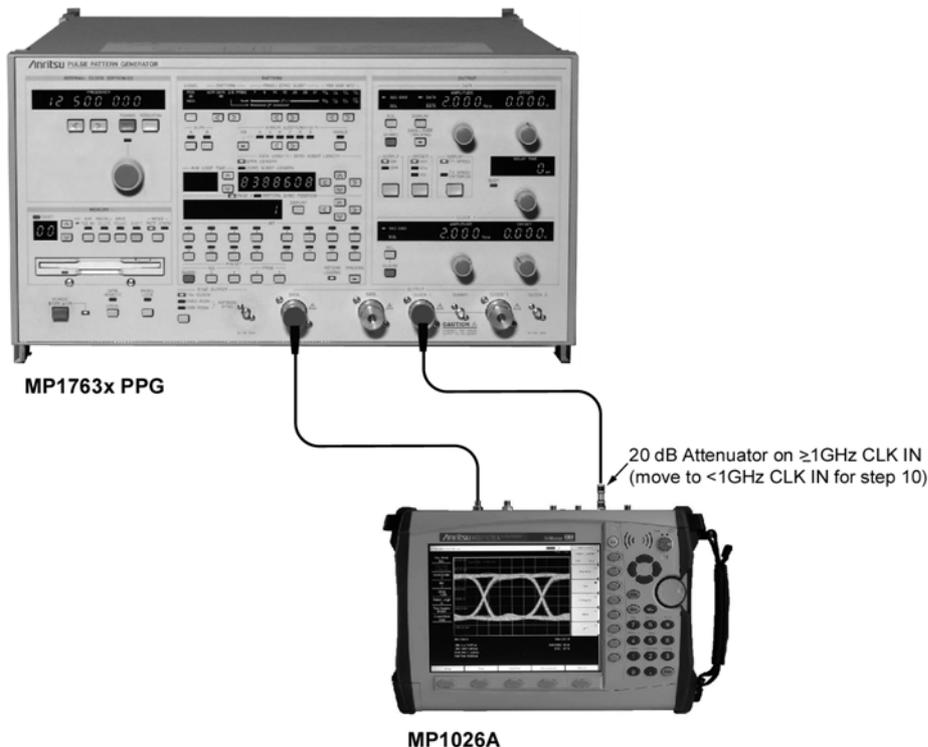

Figure 2-1. Clock Trigger Frequency Lock Test Setup
4. Connect the PPG data cable to the CH1 connector of the MP1026A. See Figure 2-1.